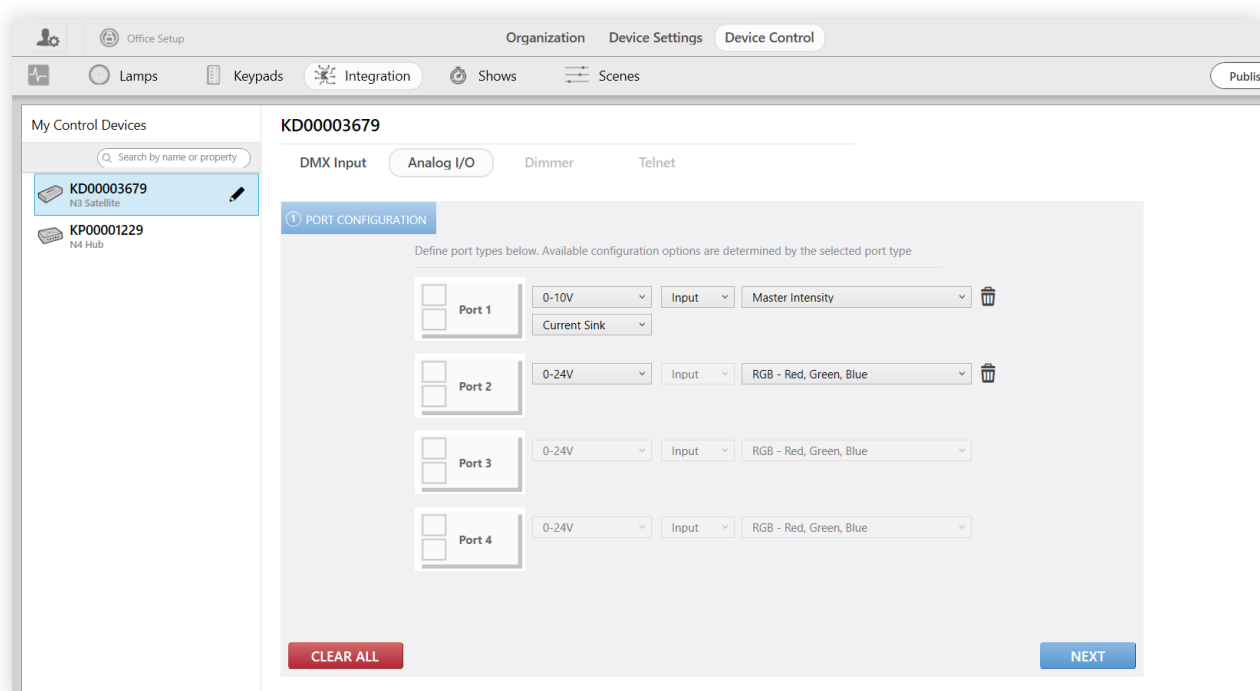

fig. 69
- 1 Select the N3 Satellite you want to program. Your list of N3 Satellites can be found in the **My Control Devices** panel, as in fig. 69.
As soon as you set the port type, additional dropdowns appear, as in fig. 69.